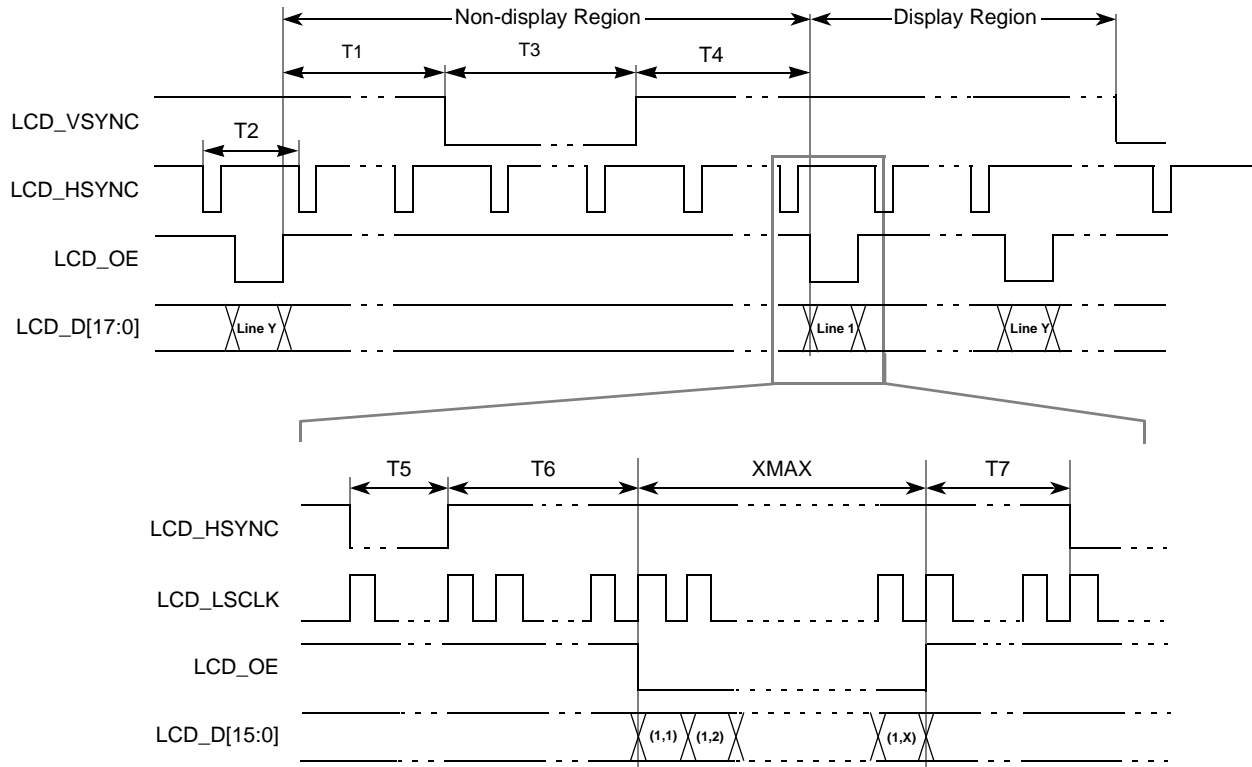

Figure 19. 4/8/12/16/18 Bit/Pixel TFT Color Mode Panel Timing
**Note:** Ts is the LCD\_LSCLK period. LCD\_VSYNC, LCD\_HSYNC, and LCD\_OE can be programmed as active high or active low. In Figure 19, all 3 signals are active low. LCD\_LSCLK can be programmed to be deactivated during the LCD\_VSYNC pulse or the LCD\_OE deasserted period. In Figure 19, LCD\_LSCLK is always active.